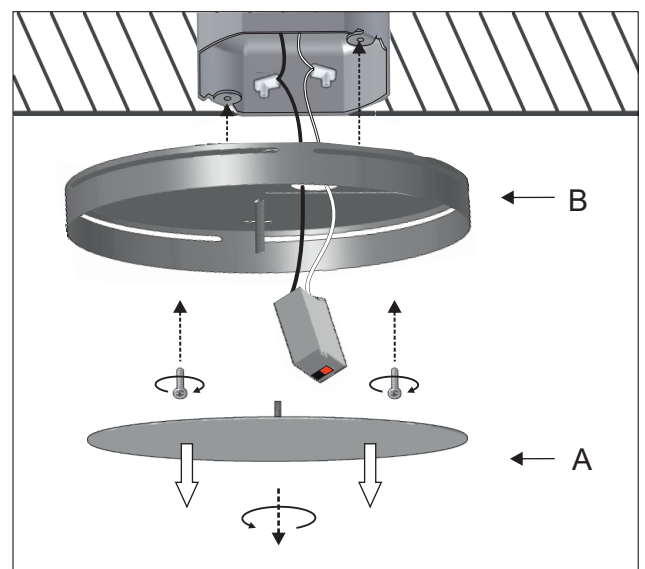

Figure 1
1 - Unscrew the canopy cover (A) by turning it to separate it from its mounting bracket (B). Run the electrical cables through the hole of the mounting bracket (B) and make the electrical connections in the Junction Box. Attach the mounting bracket (B) to the ceiling. Figure 1